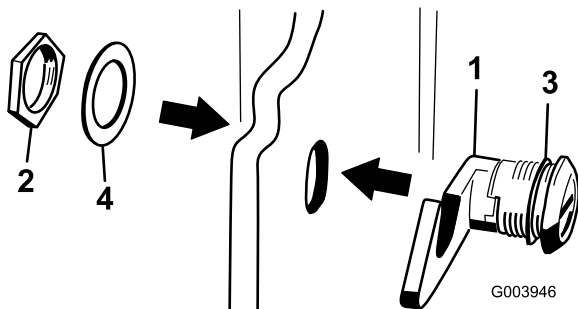

Figure 17
3. Remove the nut from the hood latch assembly (Figure 17).
rubber sealing washer remains to the outer side of the hood (Figure 17).